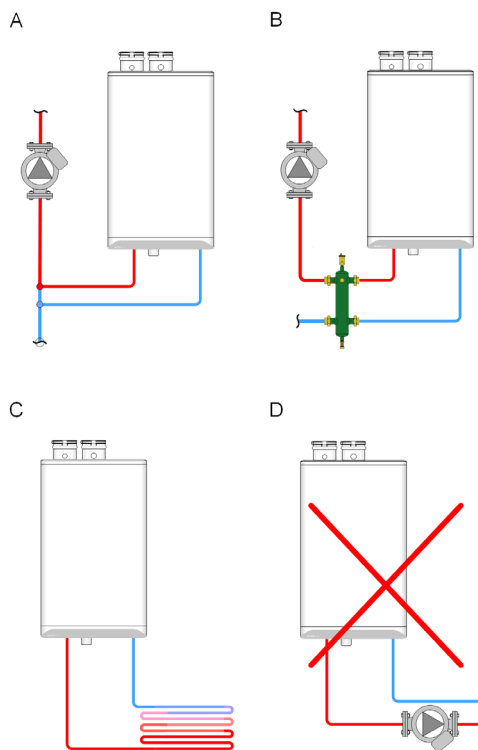

Figure 23: Permitted and prohibited space heating
Figure 23 illustrates that the SFC series integral space heating pump can be hydraulically separated from the distribution pump by (A) closely-spaced tees, or by (B) a low-loss header. Although best practice is primary/secondary, in some cases (C) the integral pump will be adequate to provide flow through the building heat emitters. The installer / designer must ensure that if the integral pump is used for the space-heating emitters it is powerful enough for system distribution. Avoid (D) where an external pump is placed in series with the integral pump because the external pump runs when the SFC is serving DHW. It will strongly compromise DHW response.